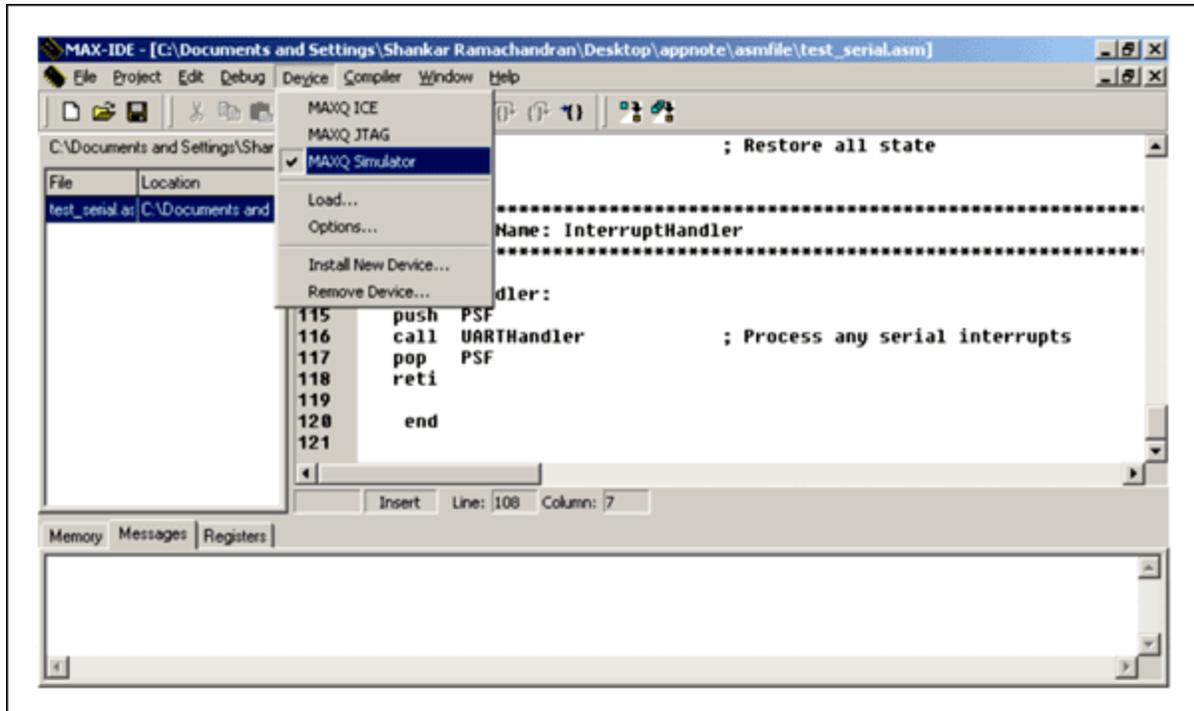

Figure 3. The MAXQ Simulator is accessed from the Device menu.
Step 6: Activate the simulator by choosing **DEVICE**→**MAXQ Simulator**, as shown in **Figure 3**.
Step 7: There are two ways to compile the project: **Make** and **Build All**. Using the **Project** menu (see Figure 3), **Make** will compile only those files that changed since the last successful compile. **Build All** will always compile all the files.